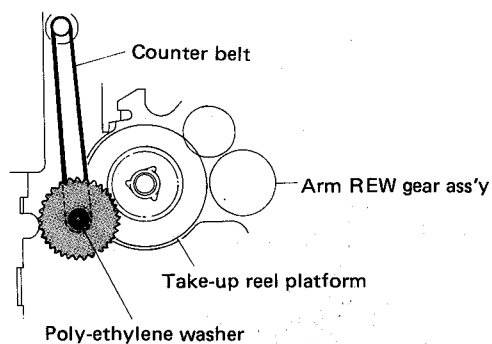

Fig. 8
- 2) Remove the counter belt. (See Figure 8.)